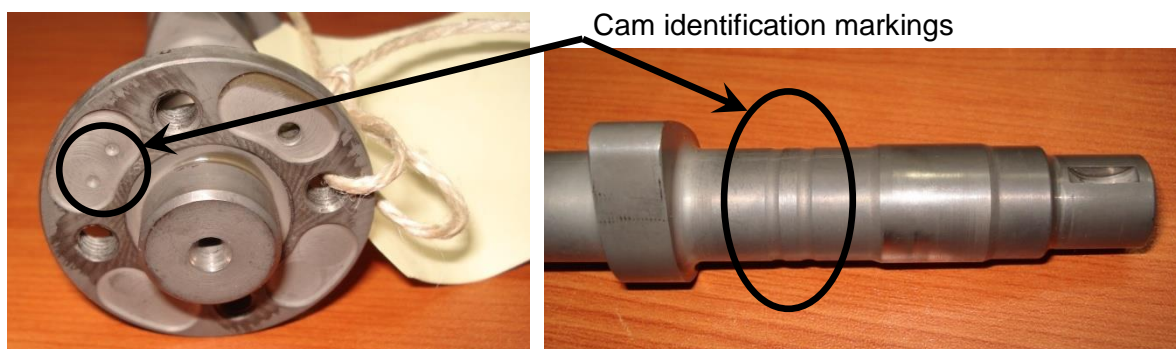

Figure 42 – Cam Identification Markings
- Figure 42 shows identification markings on a cam – it has two “rings” machined at the oil pump end and two small “spots” machined at the drive gear end. Similarly, other cams are marked with one “ring”, and one “spot”. Engines assembled with these cam types must use a Jabiru P/No. PE4A001 Hydraulic Lifter.